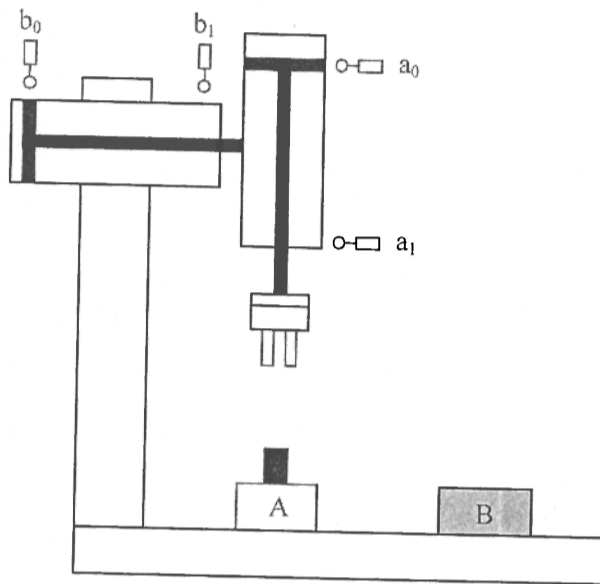

Figure Q5(b)
- (b) This question based on scenario below and refer to Figure Q5(b),
Figure Q5(b) shows the layout of the 2-Axis robot consisting of a horizontal and vertical mechanism which is used to transfer parts from position A to position B. The horizontal and vertical mechanisms are driven by a double acting and single acting solenoid valve respectively which powered by air cylinders for a left/right and up/down movements. The grip and un-grip action is driven by a single acting solenoid valve. Four reed sensors are employed to detect the position of the mechanisms by placing at each end of the two cylinders' travel limits. For basic application, robot are design to perform the following task: